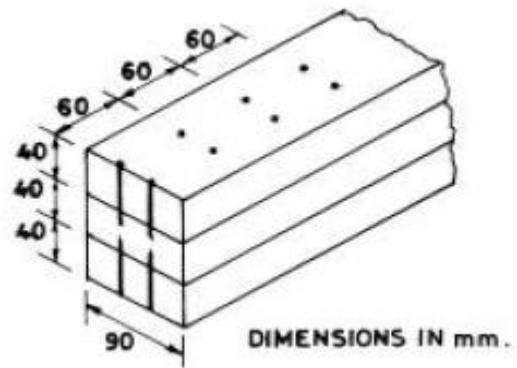

Fig. 2
| 2. | Find the maximum tensile and compressive stresses at the section a-a of an overhanging beam (Fig. 2).  |
(Fig. 2)
3.	Three boards, ( Fig. 2 ) each of 40 mm x 90 mm rectangular cross-section are nailed together to form a beam which is subjected to a vertical shear force of 1 kN. Determine the shear stress at the junction of the two boards. If the spacing between each pair of nails is 60 mm, determine the shearing force in each nail.